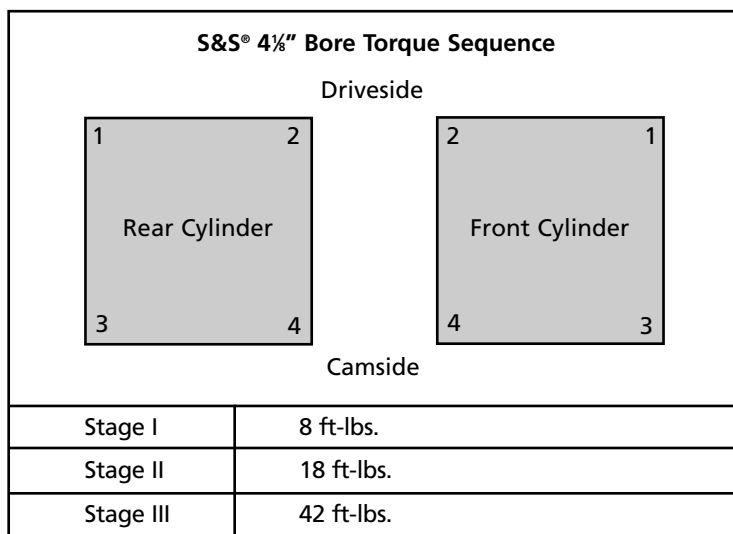

Figure 1
- 7- Torque bolts to 42 ft-lbs. in same pattern used to install heads during engine assembly. See **Figure 1**. Tighten bolts in following stages: